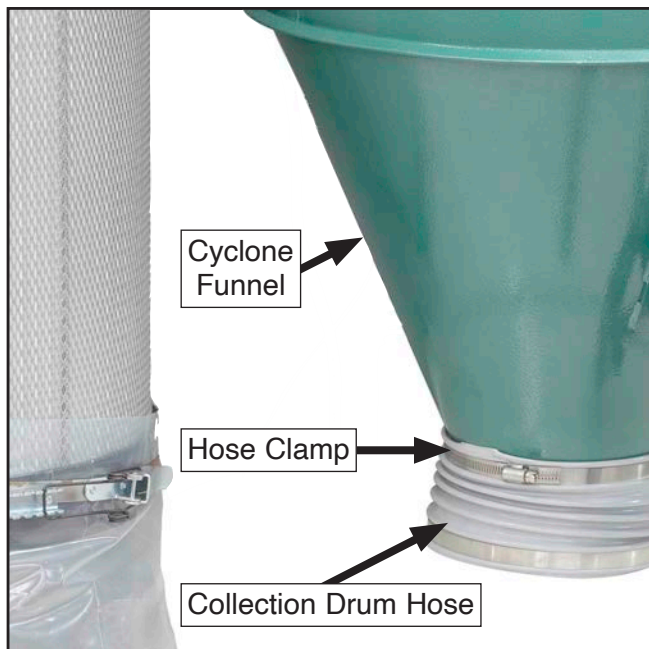

Figure 18. Attaching collection drum hose to cyclone funnel.
9. Attach collection drum hose to bottom of cyclone funnel using (1) hose clamp, as shown in **Figure 18**.